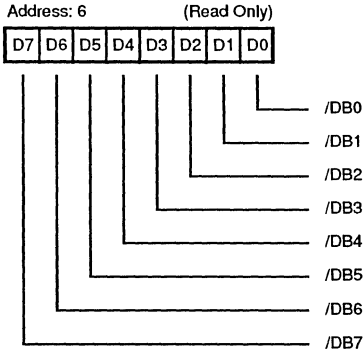

Figure 19. Input Data Register
**Input Data Register.** Address 6 (Read Only). The input Data Register (Figure 19) is a read-only register that is used to read latched data from the SCSI Bus. Data is latched either during a DMA Target receive operation